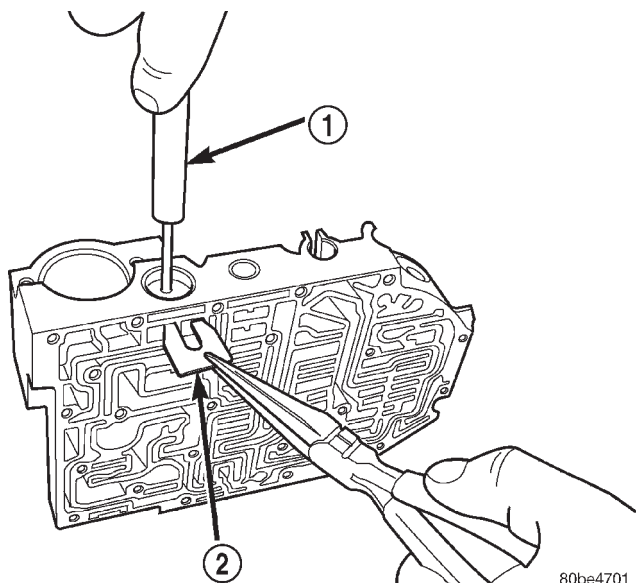

Fig. 138 Install Regulator Valve Spring Retainer using Tool 6302
- (2) Install regulator valve spring retainer (Fig. 138).